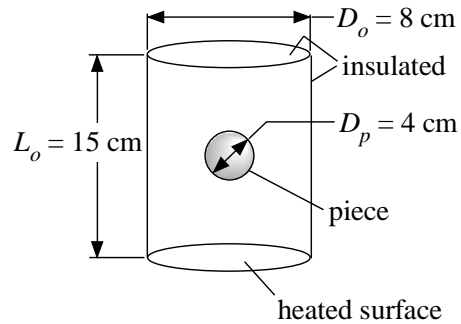

**Figure P10.3-14: Plates 1 and 2.**
10.3-14 Figure P10.3-14 shows two plates that are parallel and aligned at their center lines.